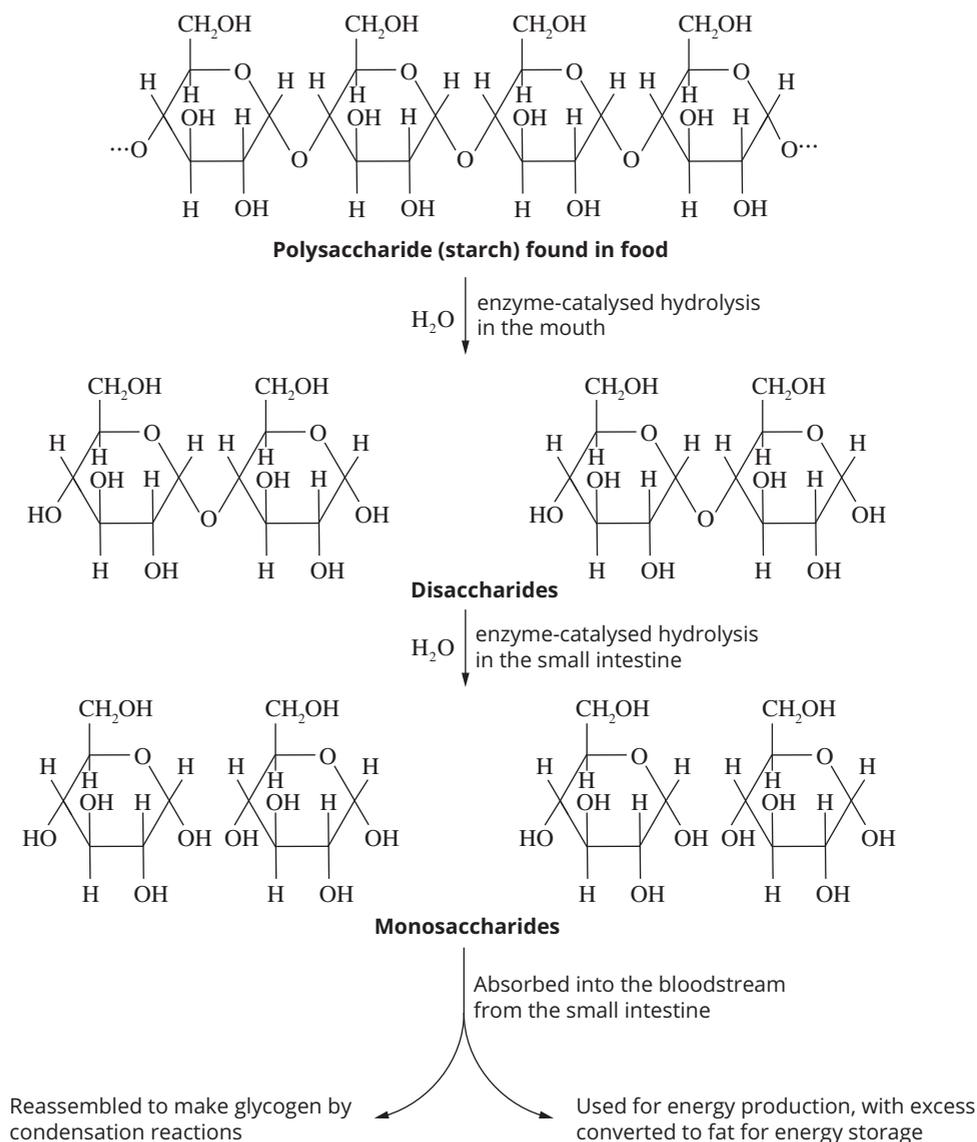

FIGURE 12.3.5 The digestion of starch
The enzyme amylase in saliva hydrolyses starch in the food you eat to maltose, a disaccharide. If you chew a piece of bread and then leave it in your mouth for a few minutes, you will notice a sweet taste. The sweet taste is the result of hydrolysis of starch to maltose. You can see the structure of starch and a summary of the hydrolysis reactions in Figure 12.3.5. The process for glycogen is broadly similar. It is the glycosidic links between each monosaccharide unit that are broken by hydrolysis reactions during digestion. The hydrolysis can continue in the small intestine where the enzyme maltase is produced. Maltase hydrolyses maltose to glucose.
- Carbohydrates are hydrolysed by enzymes during digestion to disaccharides and then to monosaccharides. The monosaccharides can be transported in the bloodstream to cells for the production of energy or storage as glycogen (Figure 12.3.5).